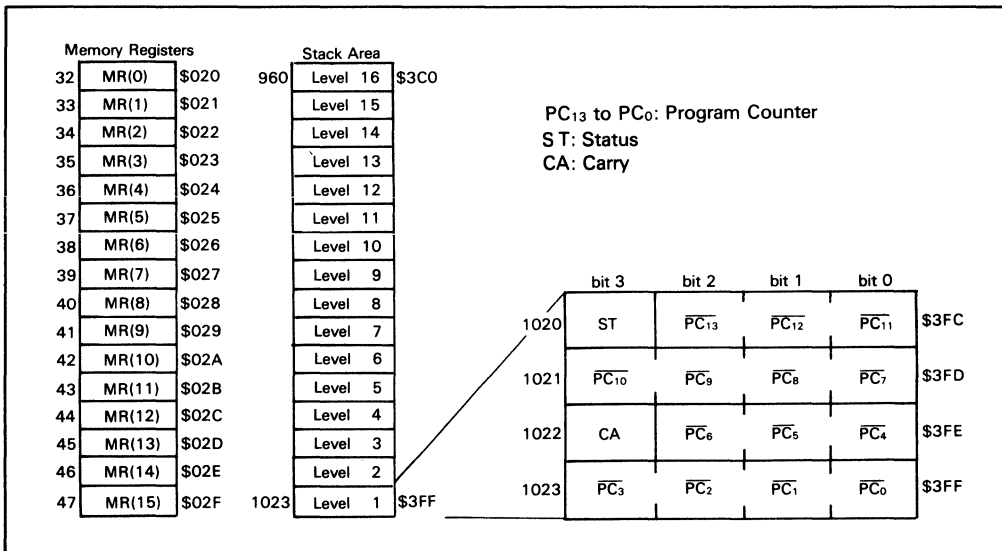

Figure 4. Configuration of Memory Register, Stack Area and Stack Position
Data Area (\$020 to \$3BF): 16 digits of \$020 through \$02F are called memory registers (MR) and are accessible by LAMR and XMRA instructions (figure 4).
Stack Area (\$3C0 to \$3FF): Locations \$3C0 through \$3FF are reserved for LIFO stacks to save the contents of the program counter (PC), status (ST) and carry (CA) when subroutine call (CAL-instruction, CALL-instruction) and interrupts are serviced. This area can be used as a 16 nesting level stack in which one level requires 4 digits. Figure 4 shows the save condition. The program counter is restored by RTN and RTNI instructions. Status and carry are restored only by RTNI instruction. This area, when not used for a stack, is available as a data area.